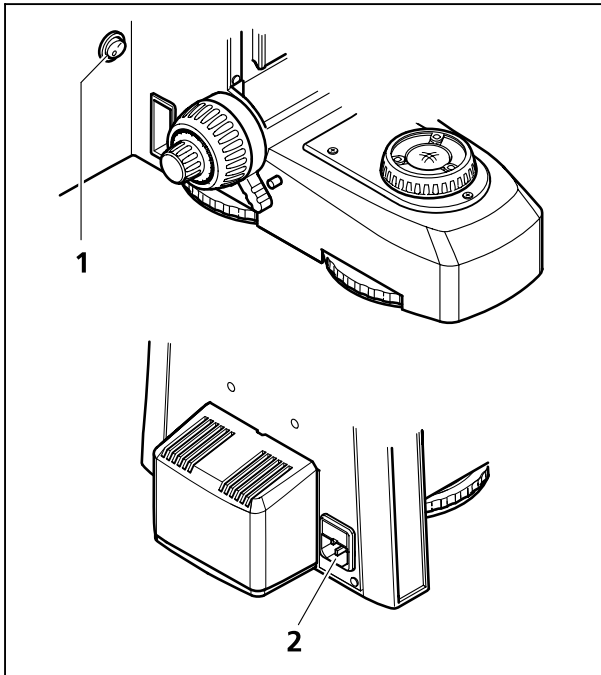

Fig. 3-35 Lower stand part for HAL 50 illumination (proceed analogically for LED illumination)
- Connect the microscope's power supply (Fig. 3-35/2) with its power cord to an electrical outlet. The microscope can adjust to a power and voltage range of 100 to 240 VAC, 50 ... 60 Hz. The power supply unit adjusts **auto-**
- Turn the power switch (Fig. 3-35/1) of the microscope with lower stand part for LED or HAL 50 illumination either on or off.